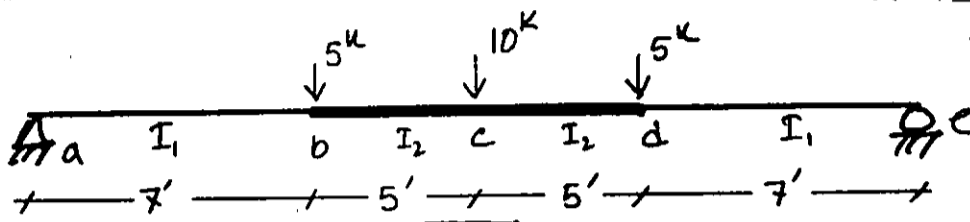

Fig. 11
6. (a) Using the method of virtual work, determine vertical deflection of point **b** of the beam shown in Fig. 11. Consider that deflection of the beam is primarily caused by the bending strain energy. Given that $E = 29000 \text{ ksi}$, $I_1 = 750 \text{ in}^4$, $I_2 = 1.5I_1$. E is same for all sections.